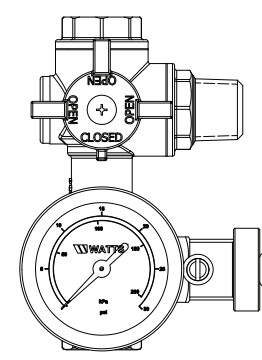

Fig. 4
1. Push in and turn RBFF handle 90° counterclockwise and lock into the expansion tank-port-closed position as shown in Figure 4.